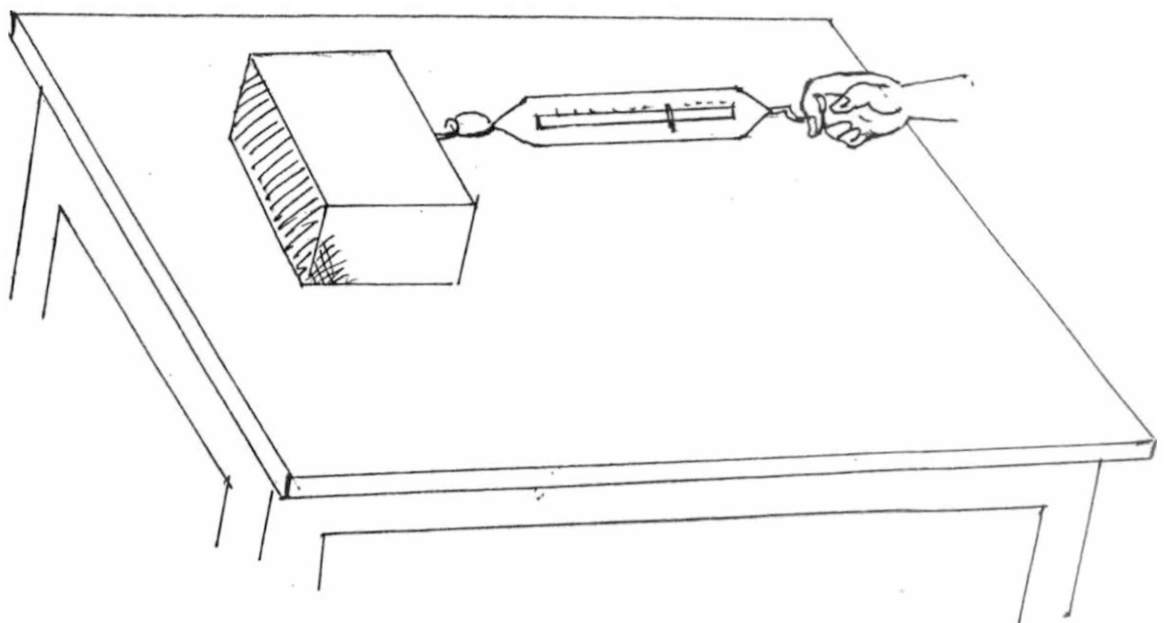

Fig.2.9
1. Take a wooden block as shown in Fig.2.9 and repeat the activity and note the value of frictional force.